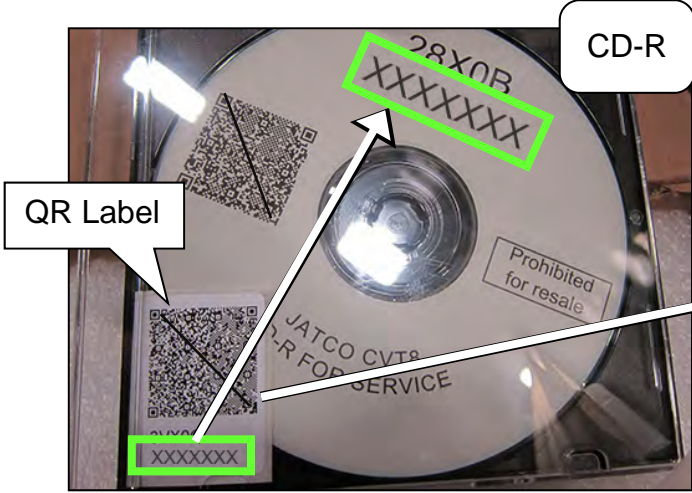
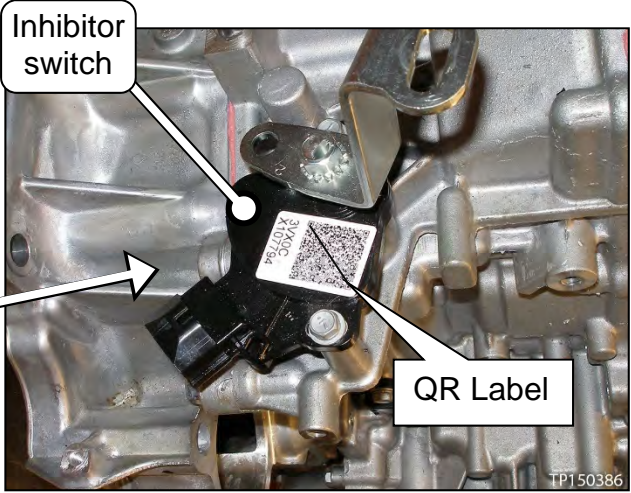

Figure 165
Figure 166
- 131. Attach the QR label (Figure 165) with the new calibration data onto the transmission range switch (inhibitor switch; Figure 166).
132. Confirm that the QR label and the CD-R part numbers are the same (Figure 165).